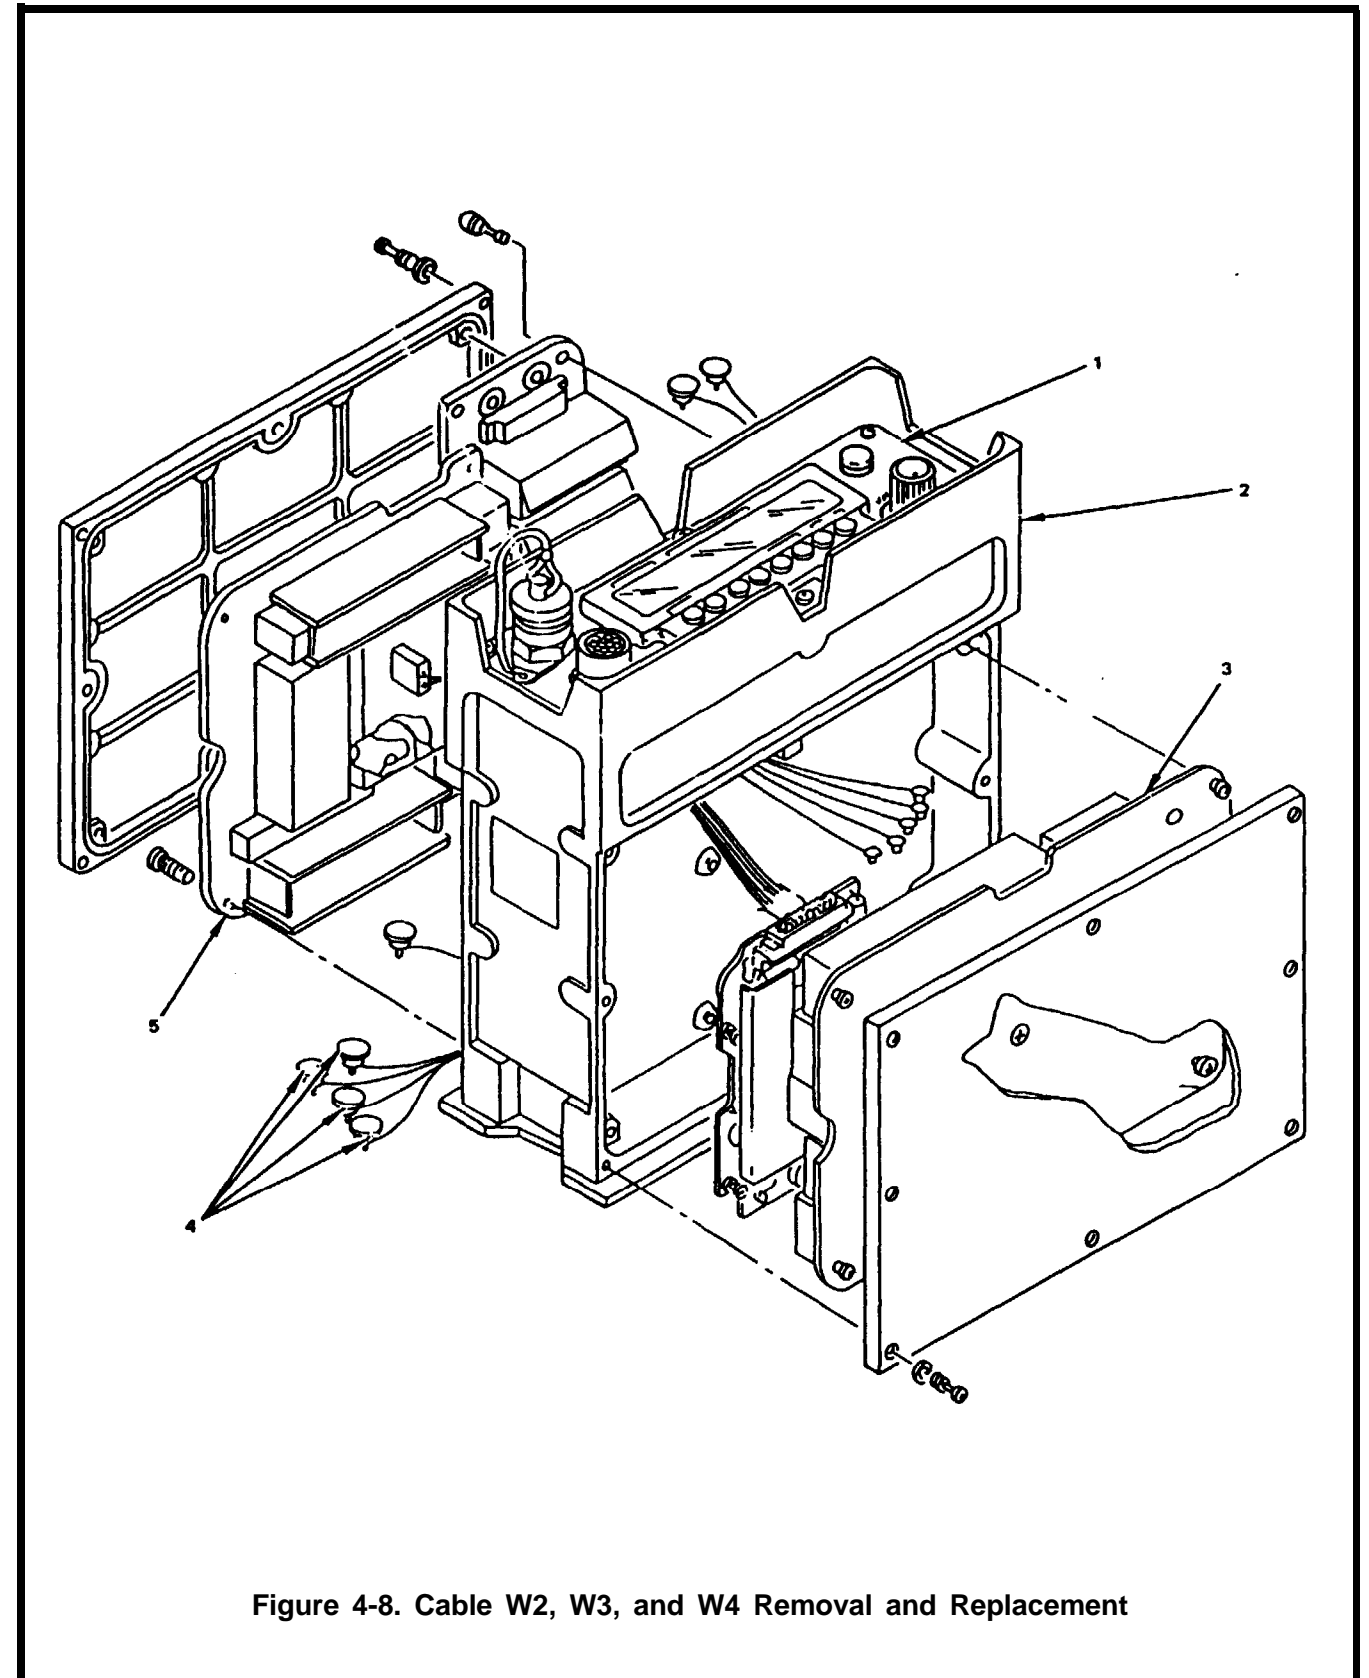

Figure 4-8. Cable W2, W3, and W4 Removal and Replacement
**CABLE W2 REMOVAL AND REPLACEMENT, fig 4-8**